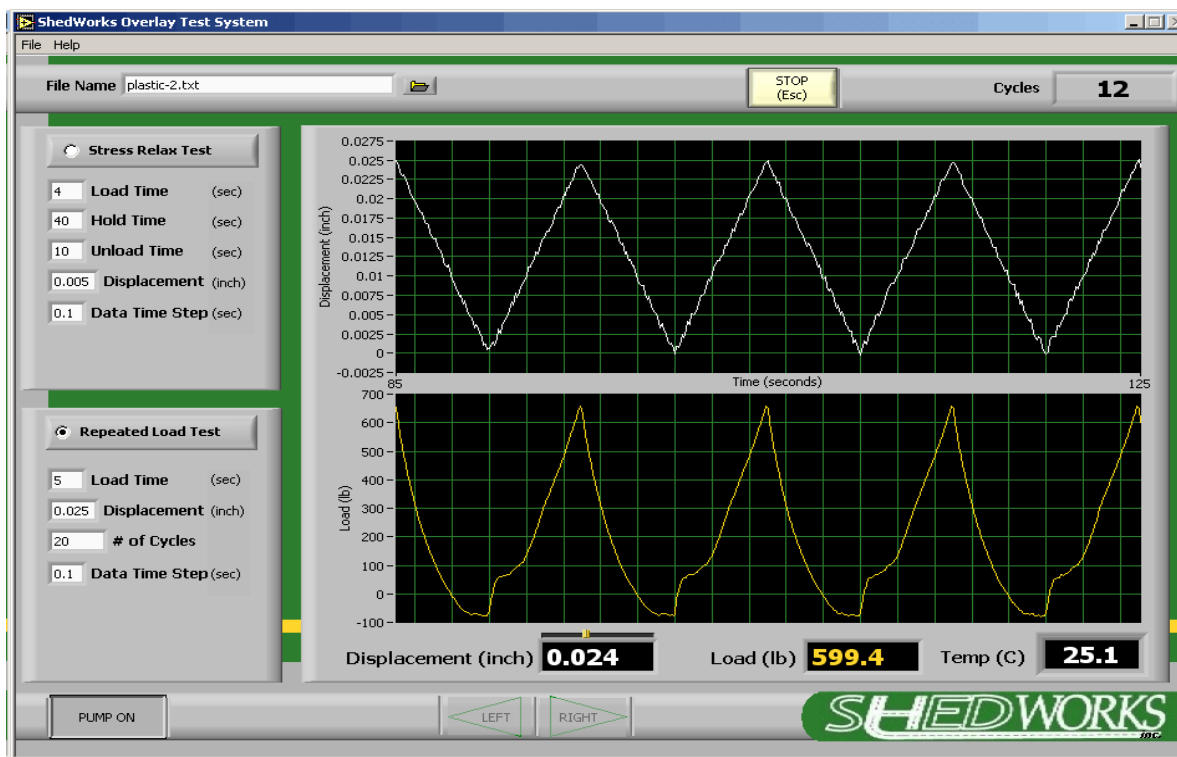

Figure 11. Typical Display during Testing.
5. During the test, a time history plot of displacement and load is presented. In addition, digital indicators are shown, and a completed number of cycles are presented for the repeated load portion of the test. This is a displacement (i.e., stroke) controlled test. Therefore, the feedback control should show the desired waveform on the displacement plot. The load is a response signal in this case and is merely recording what is happening to the load during the process of applying the displacement. In this example (Figure 11), the specimen is very weak, because it has already been partially failed in previous tests. Although the displacement is being moved only in the tension direction relative to the initial position, the load shows both compression and tension readings. Generally, the compressive load readings are indicators of time dependence and/or damage to the specimen because the position (not the load) is being forced back to zero during each cycle.